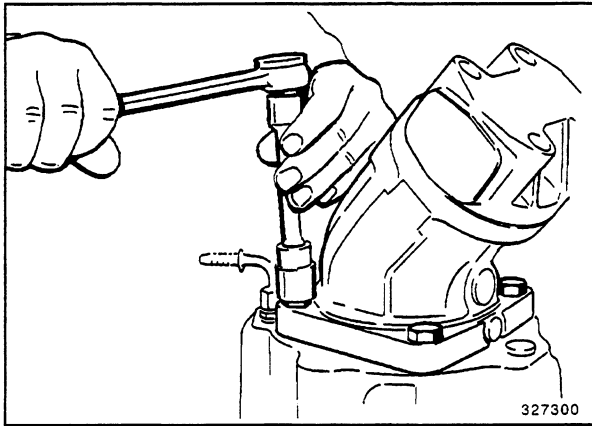

Fig. 2
- Push the coupling hub (1, Fig. 2) onto the pump shaft as far as the limit stop, tighten the setscrew (4) with a torque wrench (see table for tightening torques).
- Insert resilient coupling element (2, Fig. 2).